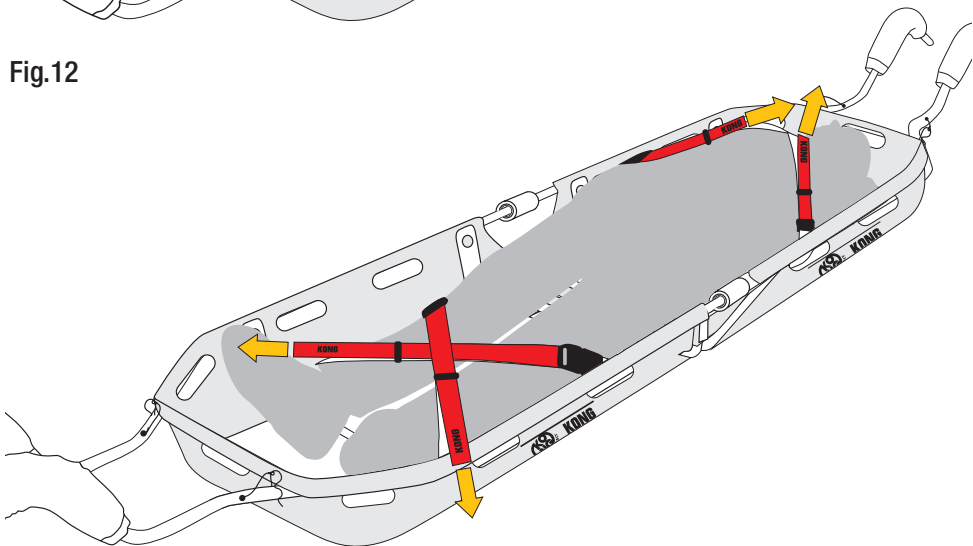

Fig.13
- Lay the patient in the stretcher, hook on the buckles and tension the straps until they secure the patient (Fig. 13).